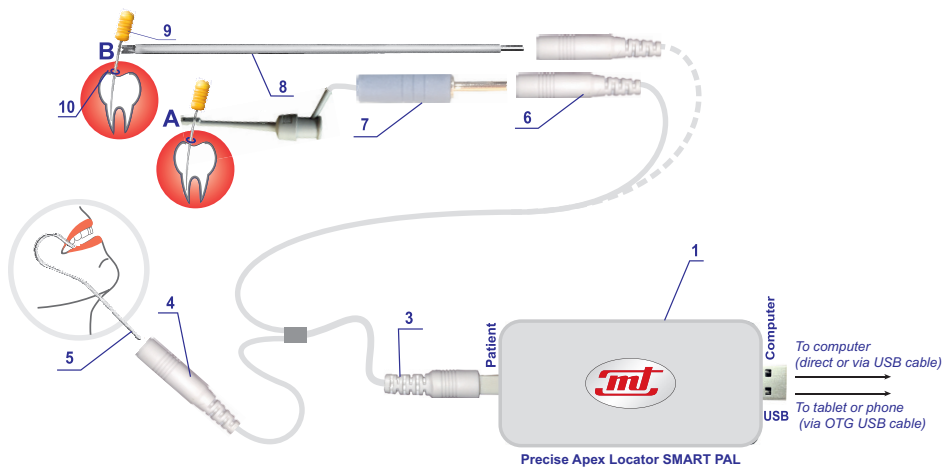

Fig. 5
4. Plug the cable (3) into the unit socket labelled *Patient*. Insert the lip contact (5) into the socket (4) all the way to the end. Attach the lip contact (5) in order to maintain good contact with the oral mucosa (Fig. 5). The crown of the tooth **must be dry**. It is recommended that the canal should be wet for better contact.